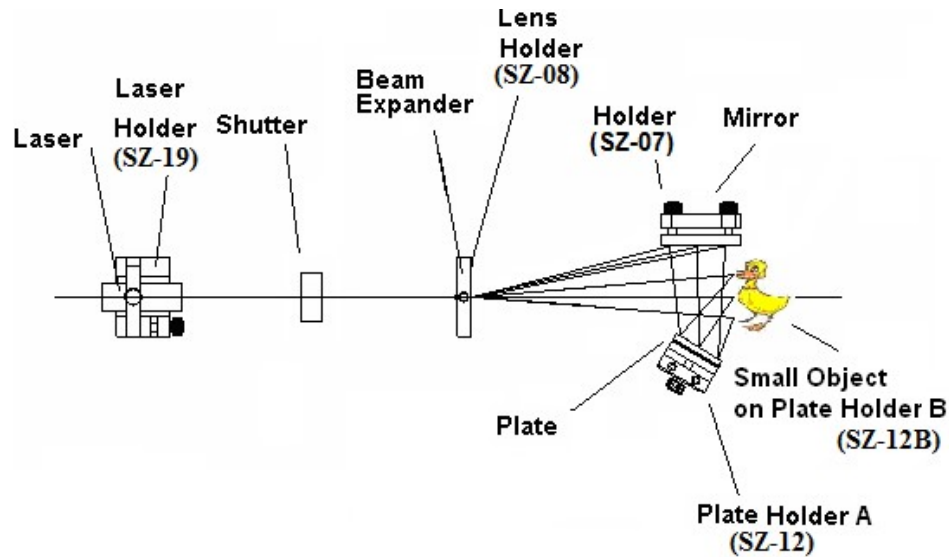

Figure 4 Configuration of transmission hologram recording
The illustration of optical path for recording a transmission hologram is shown in Figure 4.
- 1) Prepare the required parts per Figure 4. Plasticine is suggested for securing the object on plate holder B (SZ-12B).